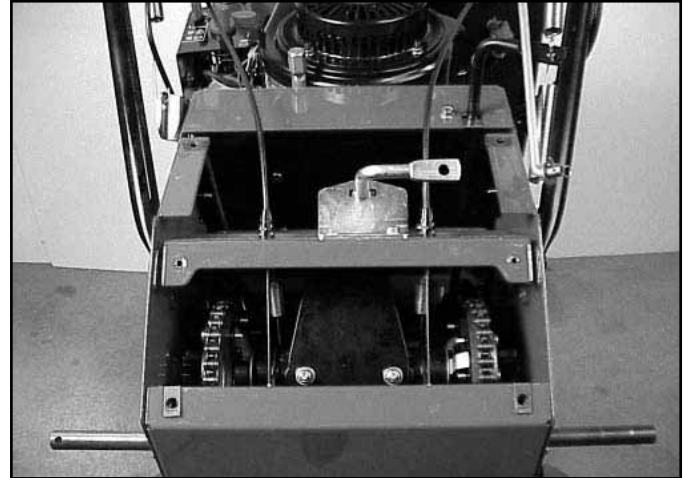

Fig 116
2. Remove upper and lower covers (Fig. 116).